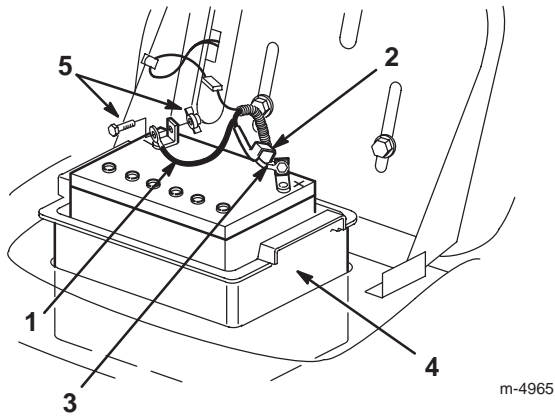

Figure 18
6. Disconnect the negative (black) ground cable from the battery post (Fig. 18).
7. Slide the rubber cover up the positive (red) cable. Disconnect the positive (red) cable from the battery post (Fig. 18).
8. Remove the battery box and battery from the chassis (Fig. 18).
1. Put the battery into the battery box and install it into the chassis (Fig. 18).
2. Using the bolt and wing nut, connect the positive (red) cable to the positive (+) battery post (Fig. 18).
4. Using the bolt and the wing nut, connect the negative (black) cable to the negative (–) battery post (Fig. 18).